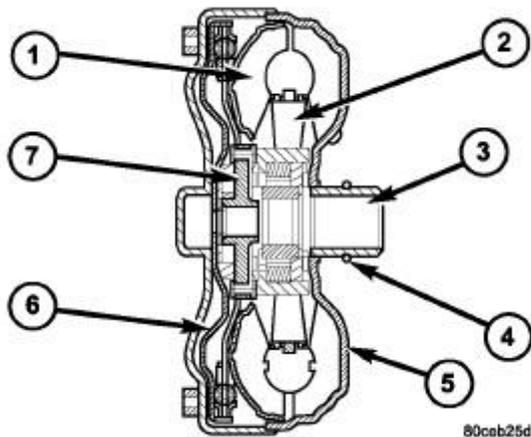

Fig. 205: Torque Converter Assembly
The torque converter is a hydraulic device that couples the engine crankshaft to the transmission. Refer to **Fig. 205**. The torque converter consists of an outer shell with an internal turbine (1), a stator (2), an overrunning clutch, an impeller (5), and an electronically applied converter clutch (6). The converter clutch provides reduced engine speed and greater fuel economy when engaged. Clutch engagement also provides reduced transmission fluid temperatures. The torque converter hub (3) drives the transmission oil (fluid) pump and contains an o-ring seal (4) to better control oil flow.